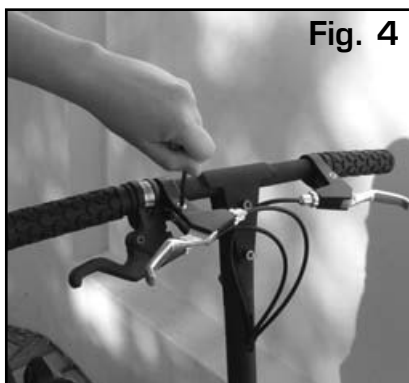

Fig. 4
5. Adjust the Gas and Brake Levers using the provided Allen Wrench, loosen the tension bolt and adjust the levers to a comfortable position (Fig4).
**\*BE CAREFUL NOT TO PULL ON THE CABLES AND ENSURE THEY ARE ROUTED THE SAME AS IN FIG 4!!!**